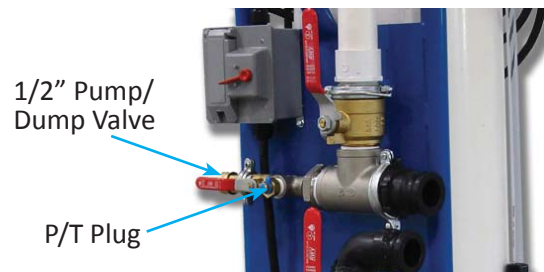

Figure 11: 1/2" Pump & Dump Valve
6. Insert pressure gauge with large dial face with a P/T adapter into P/T port on flush cart. Close 1/2" pump & dump valve (Figure 11).